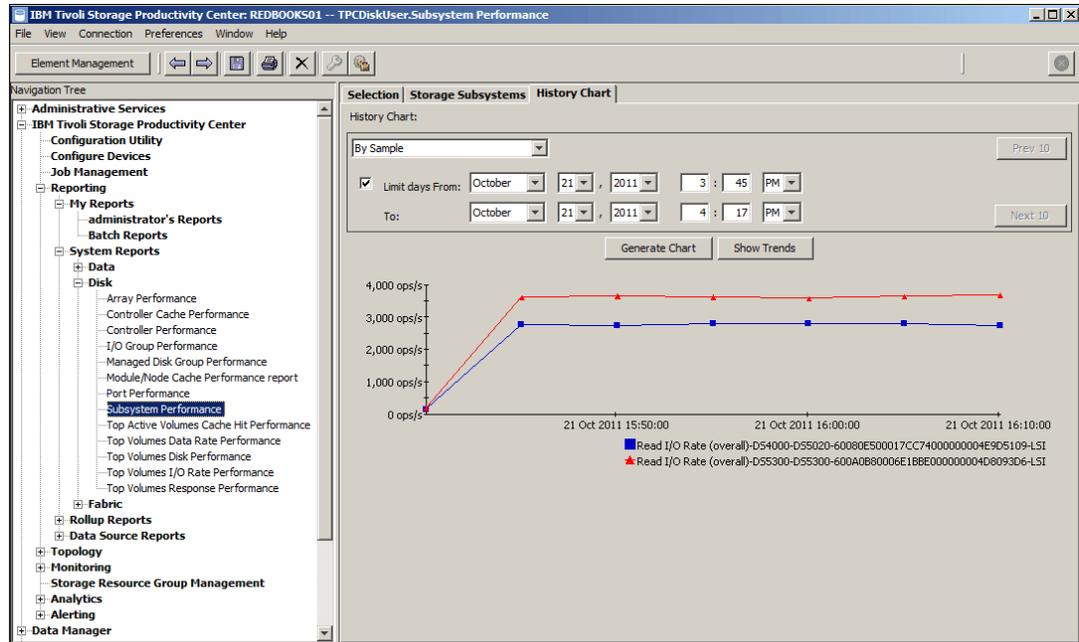

Figure 9-41 Result of historical chart
8. Here we select **History Chart** to generate the chart as shown in Figure 9-41.